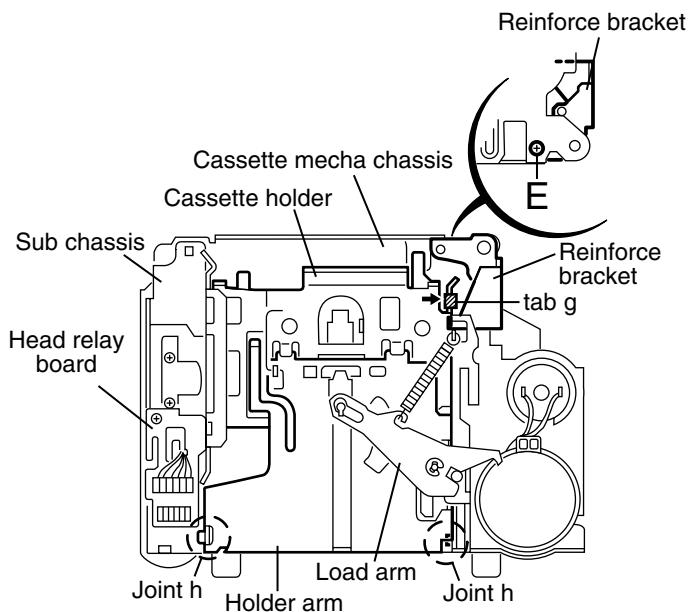

Fig.7
■ Removing the cassette holder and the holder arm in the eject mode (See Fig.7 and 8)